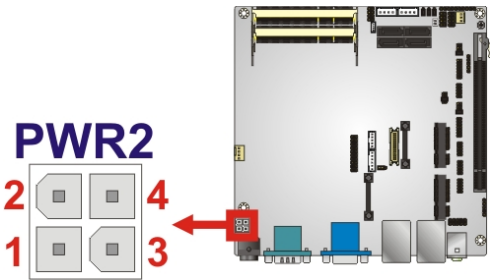

Figure 3-13: +12V Power Supply Connector Location
- CN Location:** See Figure 3-13